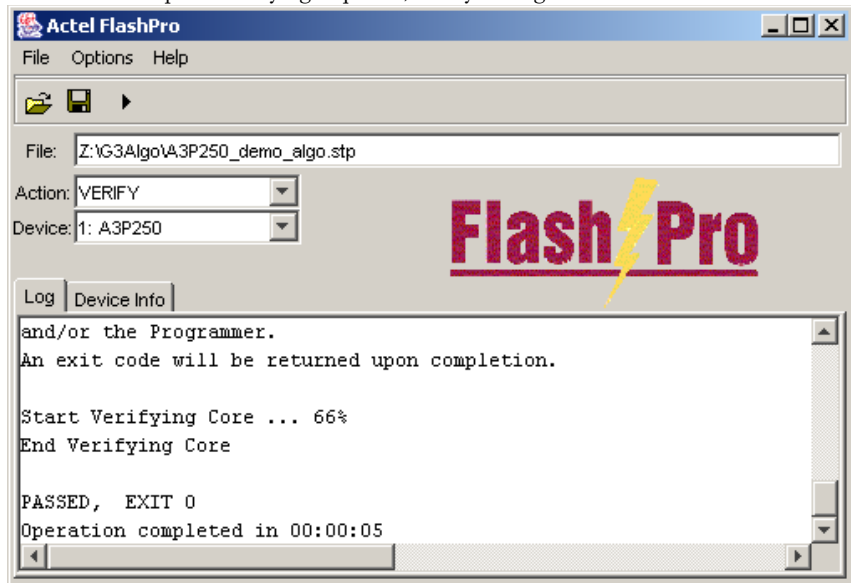

Figure 4-12. Successful Verification
4. Click *Execute* to start the verification process. A successful verification will result in Exit 0, as shown in Figure 4-12. If the STAPL file is different from the file used for programming, Exit 11 appears in the Log window (see “Error Messages & Troubleshooting Tips”, “Exit 11” for more details).